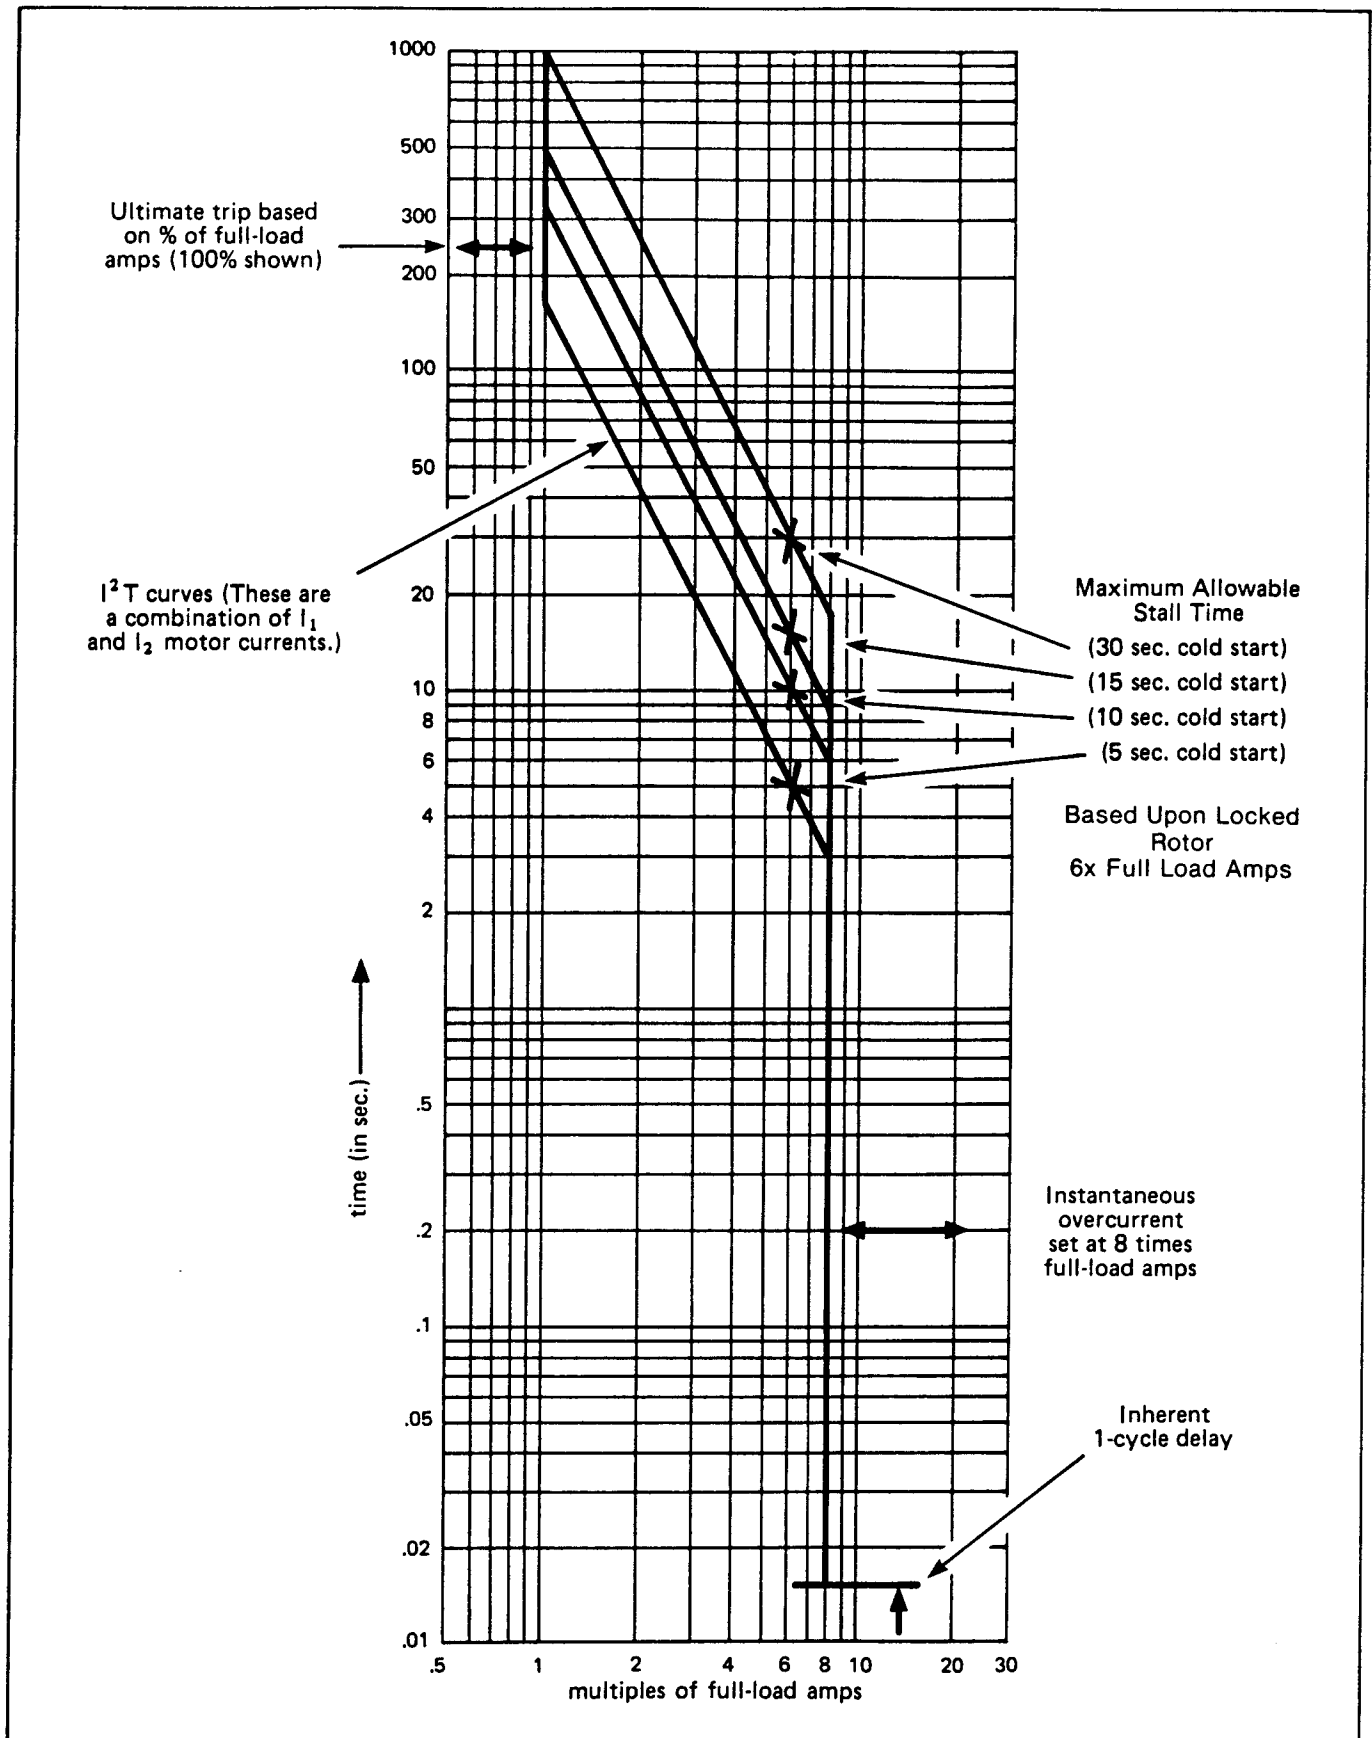

Figure 5.2 – Motor Protection Curve
direct result of the IQ-2000's hardware and the programmed setpoint values. (See Figure 5.2.) Ideally this curve is located as close as possible to the motor damage curve, thus allowing maximum utilization of the motor and, at the same time, fully protecting the motor from damage. (The motor damage curve is defined as that point in the relationship of the motor current and time where thermal damage results.) When the motor current-versus-time relationship exceeds this damage curve, a trip condition occurs, and the main contactor opens.
The typical curve shown in Figure 5.2 is the result of the factors listed in the following Paragraphs.
5.1.3.2 Allowable Locked-Rotor Current, Time — The curves shown on Figure 5.2 are based upon the maximum allowable locked-rotor current being 6 times full-load amps. The actual values can be greater or less as programmed into the IQ-2000. (The range may be 3 to 12 times.) All curves shown are based upon maximum allowable stall time with a cold start.
Note that the I^2T curves are a combination of the positive current and negative sequence current, with the negative sequence current weighted to reflect the additional rotor heating it causes. (Figure 5.2 shows the curves that result from maximum stall times.)